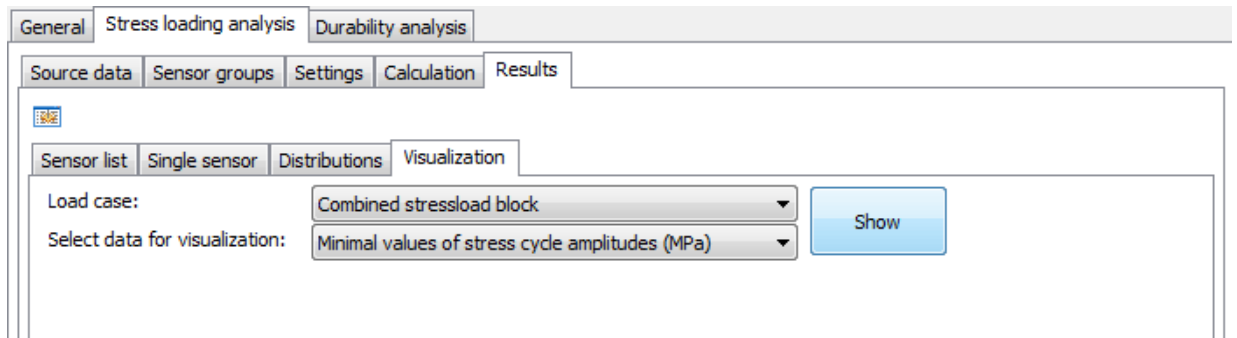

Figure 2.17. Results: visualization
- Set **Select data for visualization** to **Maximal values of stress cycle amplitudes (MPa)**, see Figure 2.17.